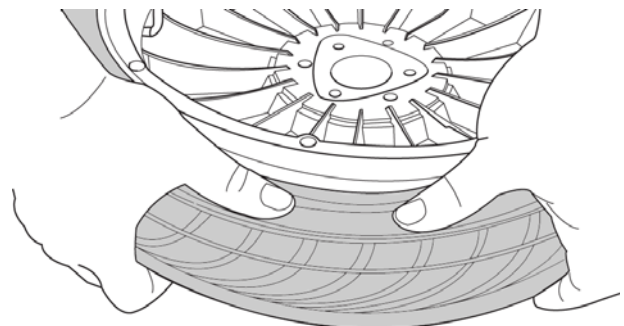

Figure 4-7: Separate Bead by Hand
5. Finish separating tire bead by hand. (Figure 4-7).